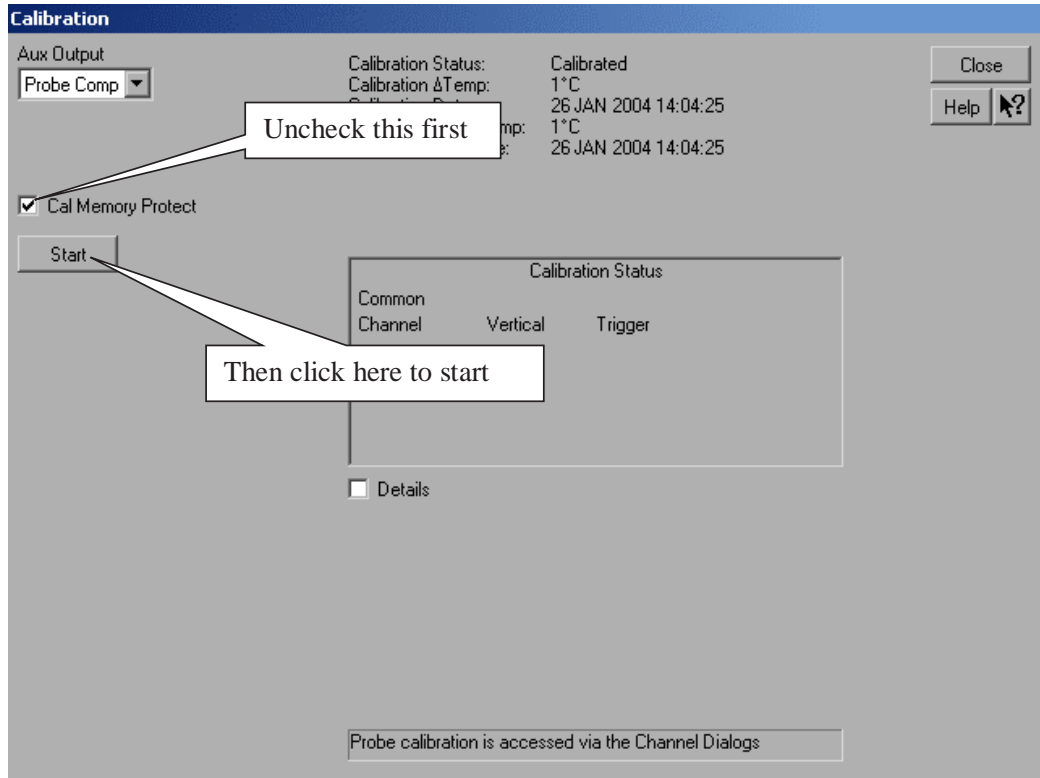

Figure 285 Oscilloscope Calibration Menu.
- 4 Referring to Figure 285 below, perform the following steps to start the calibration: